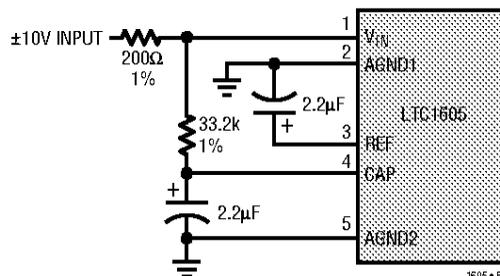
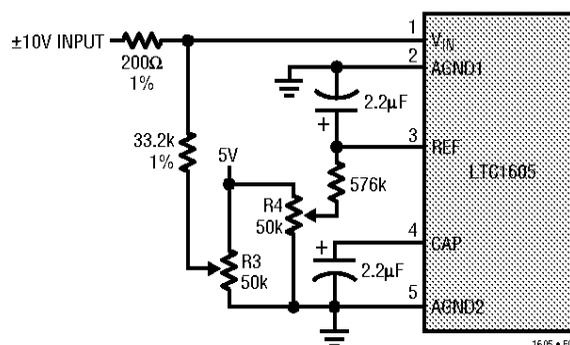

Figure 4.  $\pm 10V$  Input Without Trim
Figure 5.  $\pm 10V$  Input with Offset and Gain Trim
**Note 12:** As measured with fixed resistors shown in Figure 4. Adjustable to zero with external potentiometer.
The LTC1605 offset and full-scale errors have been trimmed at the factory with the external resistors shown in Figure 4. This allows for external adjustment of offset and full scale in applications where absolute accuracy is important. See Figure 5 for the offset and gain trim circuit. First adjust the offset to zero by adjusting resistor R3. Apply an input voltage of  $-152.6mV$  ( $-0.5LSB$ ) and adjust R3 so the code is changing between 1111 1111 1111 1111 and 0000 0000 0000 0000. The gain error is trimmed by adjusting resistor R4. An input voltage of  $9.999542V$  ( $+FS - 1.5LSB$ ) is